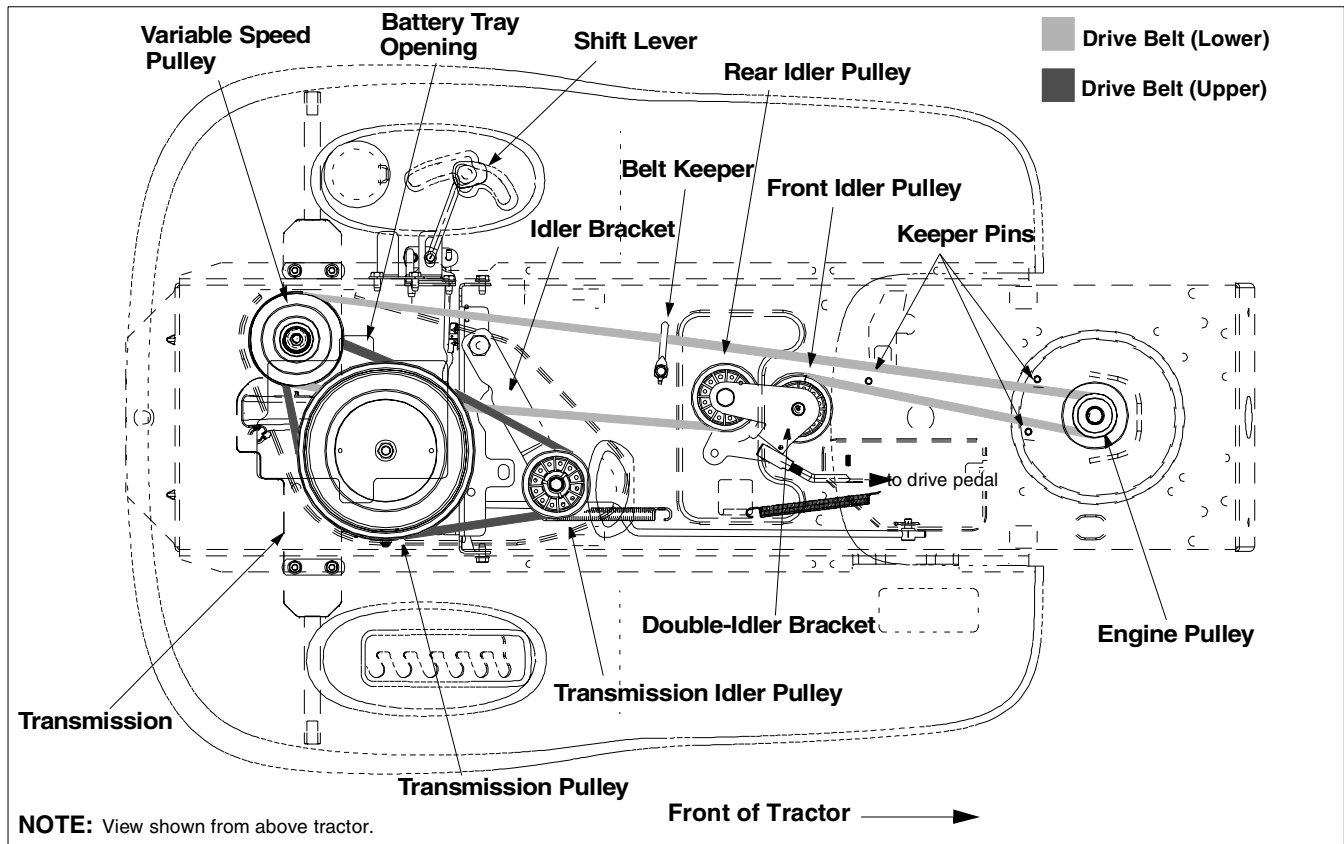

Figure 13
- Locate the transmission idler pulley on the upper drive belt by looking through the battery tray opening. See Figure 13.
- Re-route the new upper drive belt as shown in Figure 13.
- Locate the variable-speed pulley through the battery tray opening. See Figure 13.
- Remove the rear idler pulley from the double-idler bracket while unrouting the belt from around both the rear and the front idler pulley. See Figure 13.
- Reroute the new belt around the pulleys, belt keepers and keeper pins EXACTLY as the old one was routed. Refer to Figure 13.